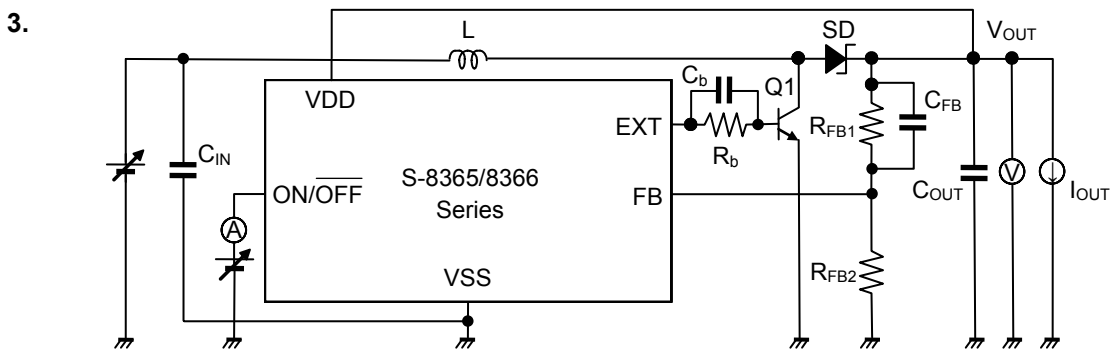

Figure 10
- *2. This is the guaranteed value measured with external parts shown in “Table 10 External Parts List” and with test circuits shown in Figure 10. The operating start voltage varies largely depending on diode’s forward voltage. Evaluate sufficiently with actual device.